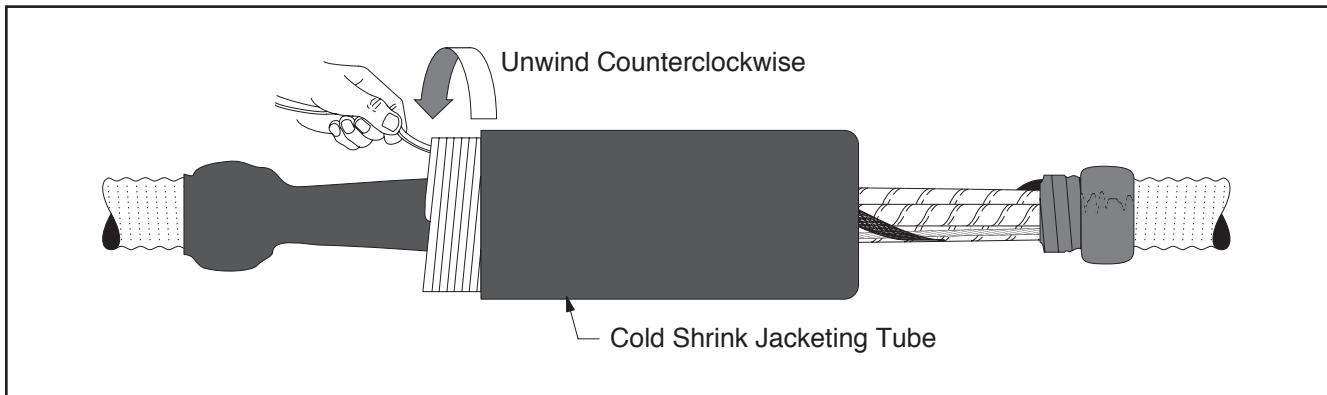

Figure 24
3.3 Continue to install the cold shrink jacket over the rubber mastic on Cable Y by slowly pulling and unwinding the outer core counterclockwise. This portion of the cold shrink tube installs differently than typical cold shrink products in that as the tube shrinks, the end rolls under. The tube may need an occasional push to keep it moving toward the second mastic seal (*Figure 24*).